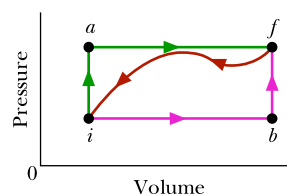

Figure 18.17 Problem 47.
**47 M SSM** When a system is taken from state  $i$  to state  $f$  along path  $iaf$  in Fig. 18.17,  $Q = 50$  cal and  $W = 20$  cal. Along path  $ibf$ ,  $Q = 36$  cal. (a) What is  $W$  along path  $ibf$ ? (b) If  $W = -13$  cal for the return path  $fi$ , what is  $Q$  for this path? (c) If  $E_{\text{int},i} = 10$  cal, what is  $E_{\text{int},f}$ ? If  $E_{\text{int},b} = 22$  cal, what is  $Q$  for (d) path  $ib$  and (e) path  $bf$ ?